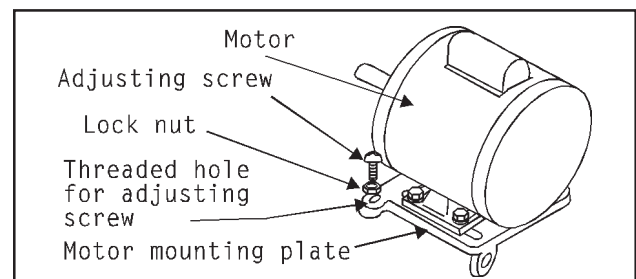

Figure 8: Motor plate adjustment screw
4. To change the belt position (and, therefore, the blade speed) first loosen the motor plate adjustment lock nut. Refer to *Figure 8* for the position of the motor plate adjustment screw and locknut.